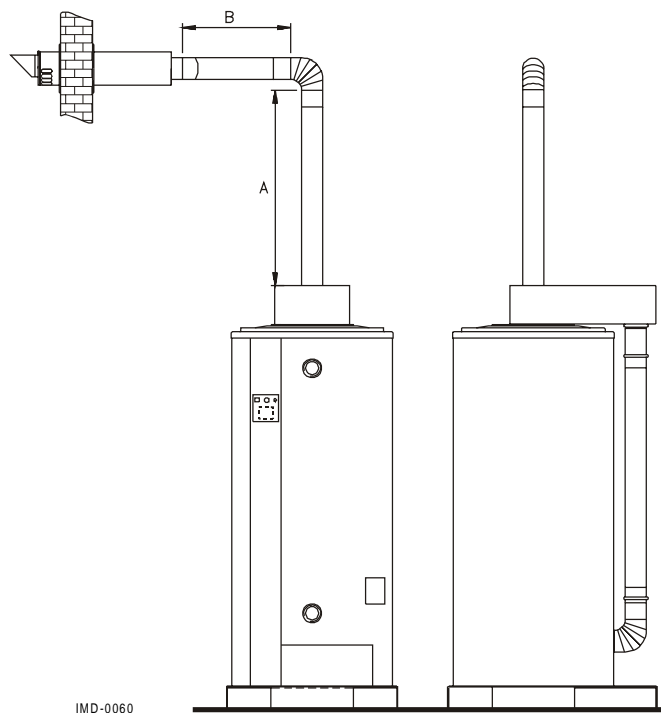

figure 9
- Wall configuration (see figure 9)